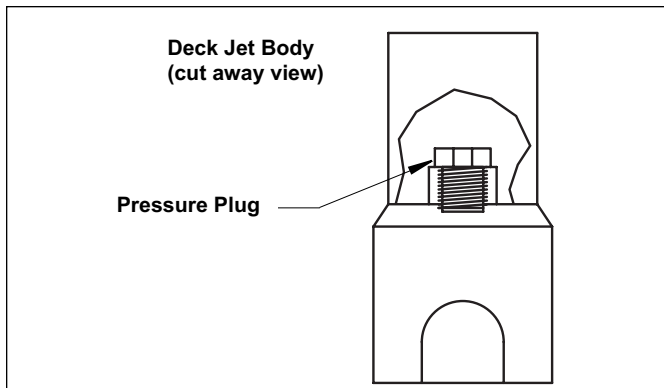

Figure 4. Install Pressure Plug
6. Remove the Deck Jet cover. Wrap teflon tape around the pressure plug threads and thread into the Deck Jet body (see Figure 4). Use a 15/16" box end wrench to tighten. **DO NOT overtighten.** Replace the Deck Jet cover.